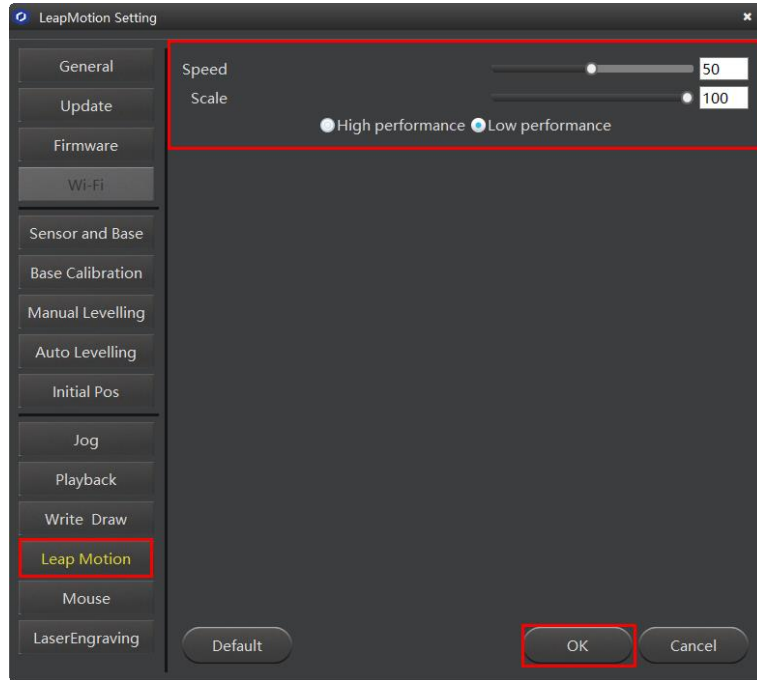

Figure 5.109 Set the parameters of the Leap Motion function
Step 4 Click **Leap Motion**, as shown in Figure 5.109. Set the parameters, as shown in Table 5.12, and click **OK**.